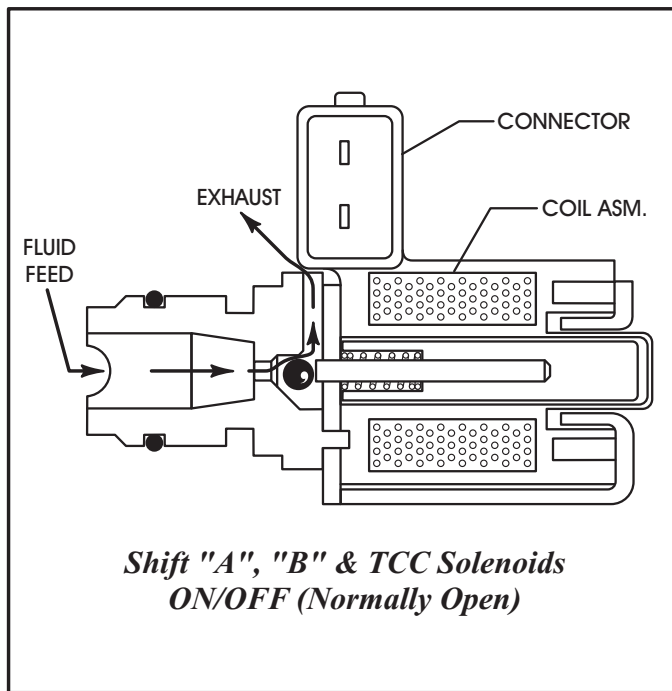

Figure 3
The PCM controls the ground signal for shift solenoid "A" to control the solenoid ON or OFF, according to transaxle and vehicle operation. When the solenoid is OFF, filtered line pressure to the solenoid is exhausted (See Figure 3). When energized (ON), the exhaust port is blocked, stopping the exhaust of line pressure through the solenoid. Pressure on the end of the 1-2 shift valve moves the valve against spring force, sending line pressure into the solenoid "A" passage to the 3-4 shift valve.
The PCM controls the ground signal for shift solenoid "B" to control the solenoid ON or OFF, according to transaxle and vehicle operation. When the solenoid is OFF, filtered line pressure to the solenoid is exhausted (See Figure 3). When energized (ON), the exhaust port is blocked, stopping the exhaust of line pressure through the solenoid, and directing it into the solenoid "B" passage. Solenoid "B" fluid pressure is then fed to the 4-3 manual downshift valve and the 3-2 manual downshift valve.
The 2nd solenoid is an ON/OFF solenoid and identical to the two shift solenoids, as shown in Figure 3.
When the solenoid is OFF, and if the transaxle is operating in 2nd (some models), 3rd or 4th gear, TCC signal fluid is exhausted through the solenoid (See Figure 3). When energized (ON), the exhaust port is blocked, sending TCC signal fluid pressure to move the converter clutch valve against spring force and line pressure at the opposite end of the valve.